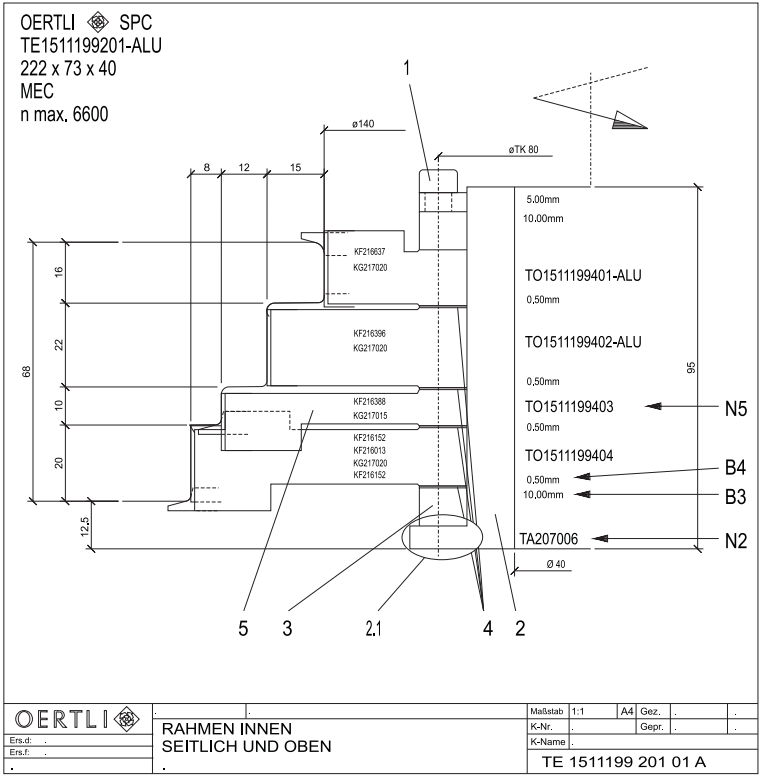
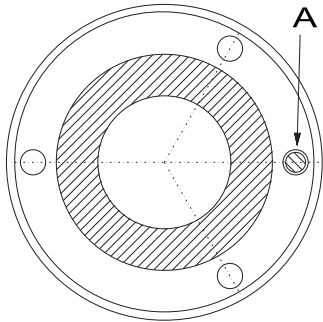

Fig. 1
Fig. 2
(see Fig. 1 and Fig. 2)
1. Lay-out the assembly drawing included with the tool kit. Identification is with the drawing number which is found in the bottom right-hand corner. Fig. 1 shows a drawing with the identification number TE 1511199 201 01 A. The tool set is identified with the part number. For example, in Fig. 1, the tool set is identified with the numbers "TE1511199201".
3. Loosen the screws (1) with the Allen key and remove them completely.
4. Now all the spacer components (3, 4) and all cutters (5) can be taken-off from the clamping sleeve (2).
7. Mount spacers and cutters, as shown on the assembly drawing, on the corresponding clamping sleeve (2). The part number "N2", identifying the clamping sleeve, is engraved on it. During assembly, take special care to align mounting holes in the cutters to mounting holes in spacers and shims (Fig. 2). The positioning pin securely fixed in the clamping bush, must engage in the hole (A) of spacers or cutters.
8. The individual cutters are marked by identification numbers. The cutter (5), shown in the assembly drawing belongs to the part number "N5." This number is engraved on the cutter and is referred to in the drawing. The spacer components have their thickness engraved in millimetres. The thickness of them (B3, B4) is specified on the drawing and refer to the spacers (3), respectively shims (4).